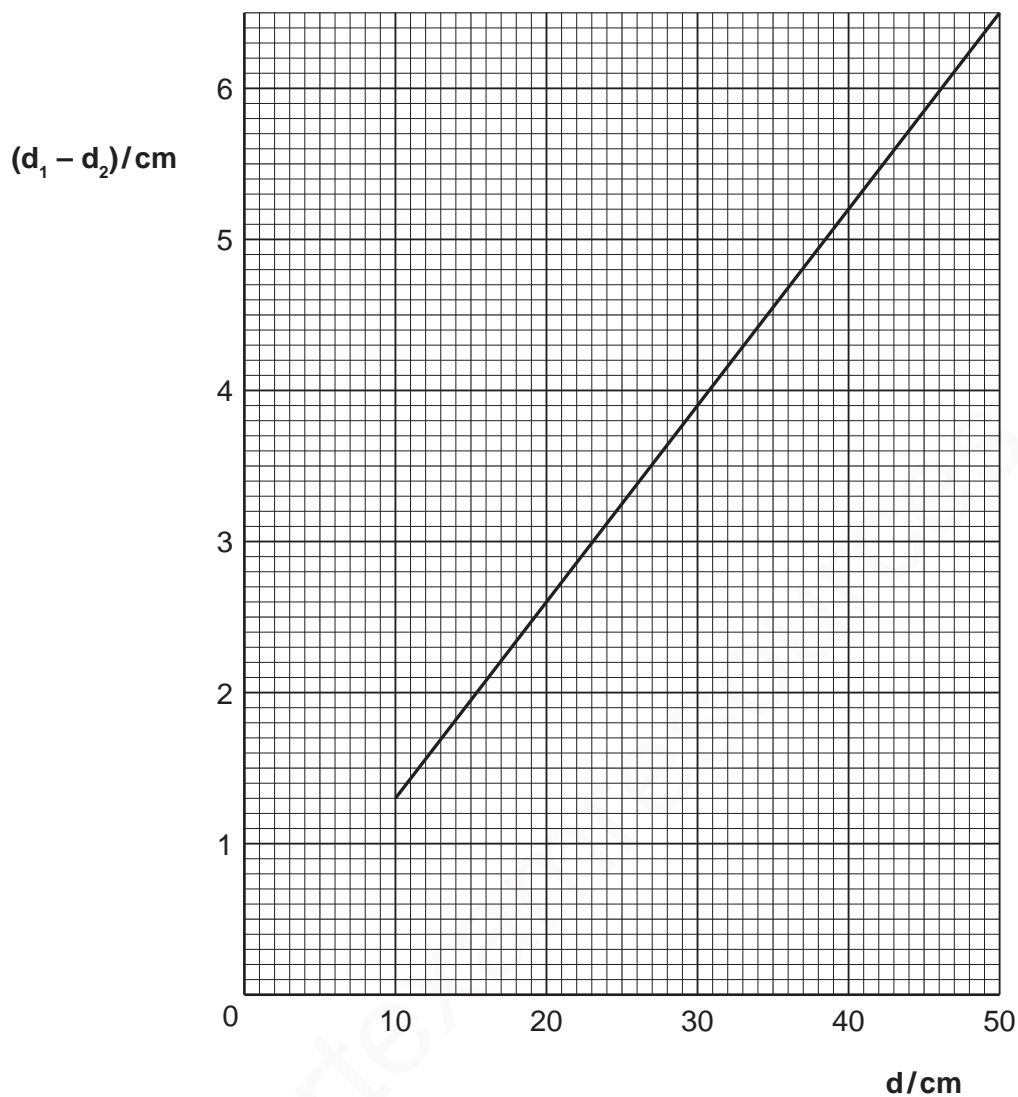

Fig. 6.7
- (b) The results of a similar experiment were plotted in a graph, Fig. 6.7 and the line of best fit drawn.